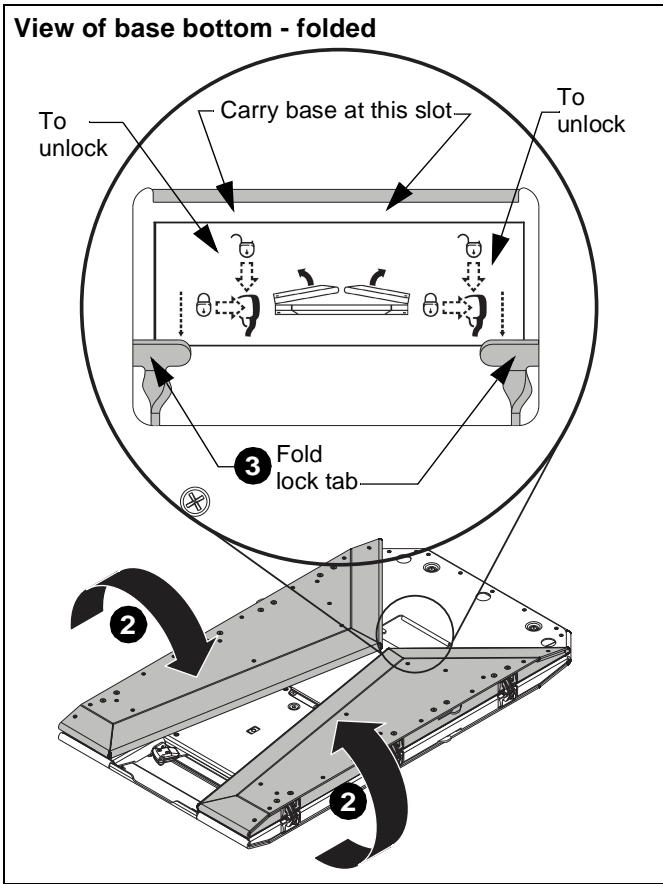

Figure 17
2. Fold up sides of the base, being careful to keep fingers from between sides and center base. (See Figure 17)
3. Push straight in on each of the fold lock tabs to lock each side of the base in the folded position. (See Figure 17)
NOTE: Carry the base by using the slot on the bottom of the base. (See Figure 17)
NOTE: TO UNLOCK FROM FOLDED POSITION - Push straight down (or toward back of base) on both fold lock tabs to unlock the sides of the base and allow them to be opened to the flat base position. (See Figure 17)